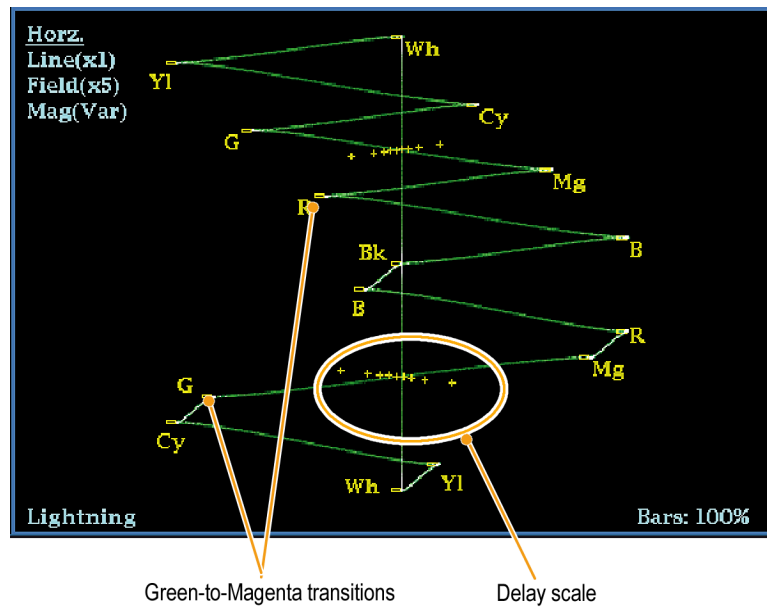

Figure 71: Determining transition intersections in the Lightning display
7. Determine where transitions intersect the delay scales and derive the timing error in nanoseconds, as deflected from the center mark, using the following guidelines. (See Figure 71.)